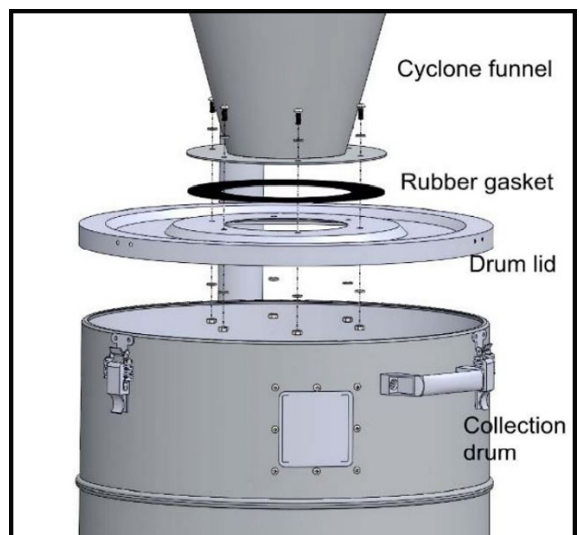

Figure 5
5. Add the rubber gasket between the cyclone funnel and the drum lid, fasten the three parts with M6X15 screws, flat washer and M6 nut. (See figure 5)
6. Set funnel and lid on collection drum and secure with latches. (See figure 5)